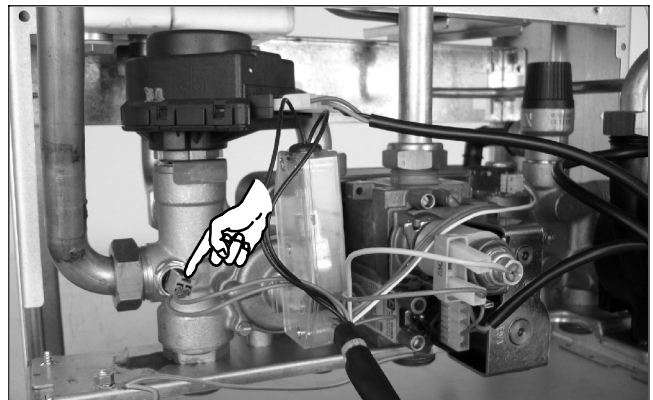

Fig. 23
- 3 Disconnect the C.h. temperature probe NTC (Fig. 23)
- 5 Connect the C.h. temperature probe NTC (Fig. 23)